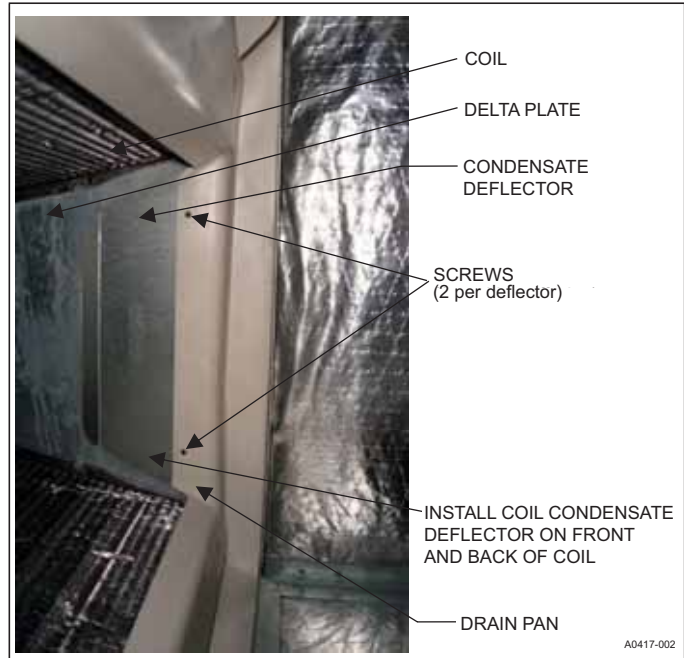

FIGURE 6: Coil Condensate Deflector Installation
8. For horizontal right applications, install front and back coil condensate deflectors (condensate deflectors shipped as loose parts with the unit). Locate 4 screws securing coil delta plates to coil drain pan. Loosen the screws. Slide each coil condensate deflector between the drain pan and the coil delta plate. Tighten screws to securely anchor coil condensate deflectors. Refer to Figure 6.